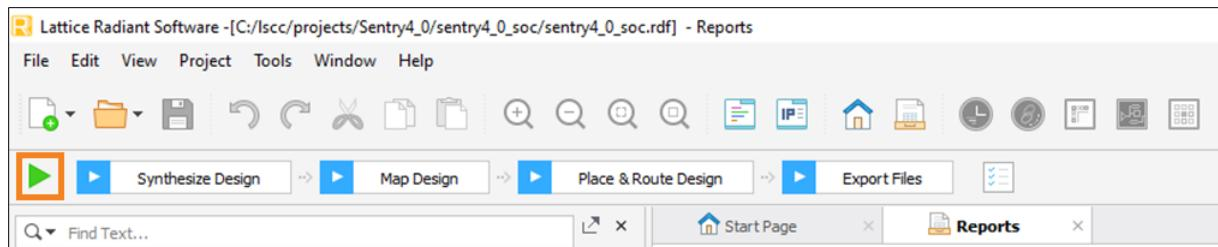

Figure 4.15. Lattice Radiant Software Synthesis/Map/PAR Process
4. In the Lattice Radiant software, click the green arrow to run through the Synthesis/Map/PAR/export process to generate a signed bitstream (Figure 4.15).